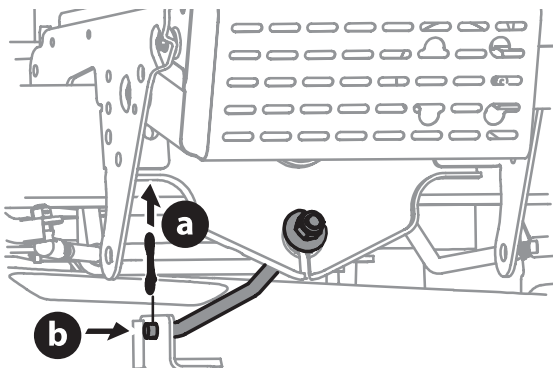

Figure 28
8. On 36, 42 and 46 inch decks, remove the bow-tie pin (a) securing the deck stabilizer rod (b) to the deck. Slide the deck lift rod from the mounting weldment on the deck (Figure 28).